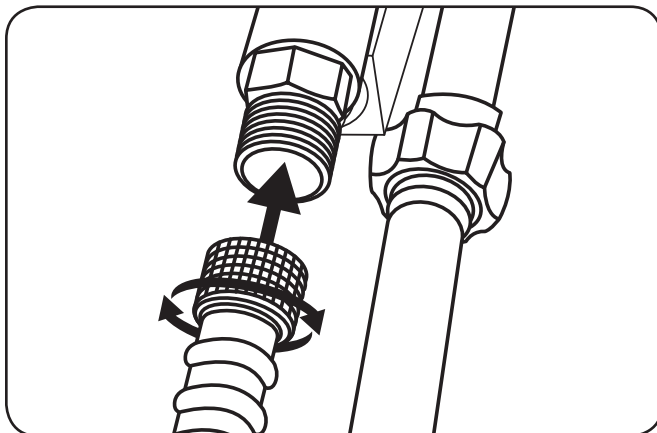

Figure 5-3
6. Connect high pressure hose to pump outlet. See Figure 5-3.